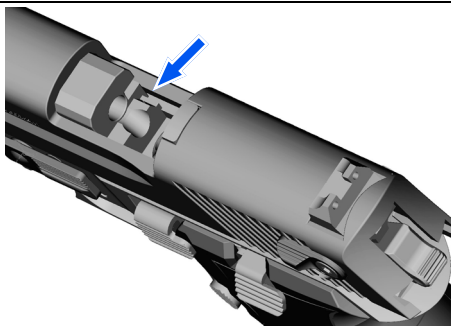

Fig. 6
5. Check (visually and manually with appropriate aid) to ensure that the round has been ejected and that there is no round in the chamber (see Fig. 6).
3. Check (visually and manually with appropriate aid) to ensure that there is no round in the chamber (see Fig. 6).